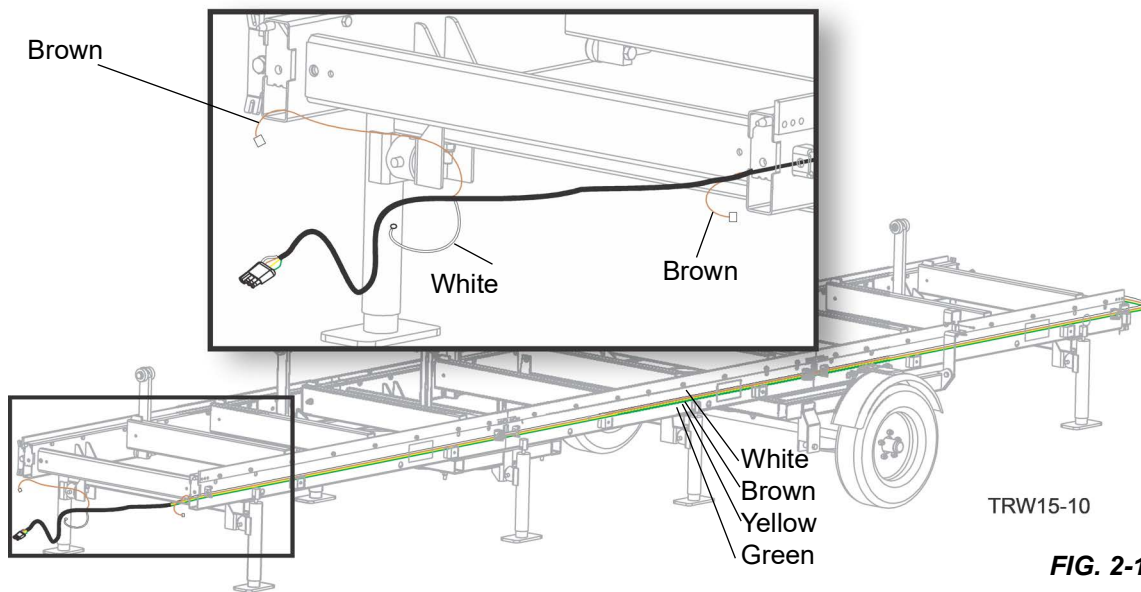

FIG. 2-10
1. Install the light bar to the sawmill bed as shown in Fig. 2-10.
2. Align the notches in the light bar with the sawmill bed rails. See Fig. 2-10.
1. Feed the wiring harness through the space on the tongue weldments allotted for the wiring harness to pass through. See Fig. 2-10.